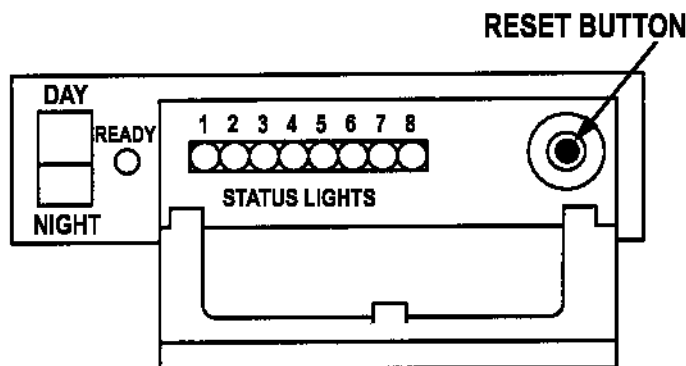

Figure 9
- READY LIGHT (stand-by condition) illuminates when developer temperature and fluid levels are correct and if the film sensor is closed. The 100 PLUS is ready to process a film. If the READY LIGHT does not illuminate, check the STATUS LIGHTS behind the name plate on the face of the processor. (See Figure 9 and Status Lights p. 17)
These lights are located behind the name plate panel. (See Figure 9) Refer to these lights if there is a problem when operating the 100 PLUS. Review the lights, note whether there is light "on", light "off", or light "flashing". Then look in the Status column in the chart below for the explanation. For example, if READY LIGHT is not on and Light No. 4, Developer Level, is flashing, the chemistry level in the developer tank is low. A possible cause is an empty developer container, or a developer drain valve that is not completely closed.